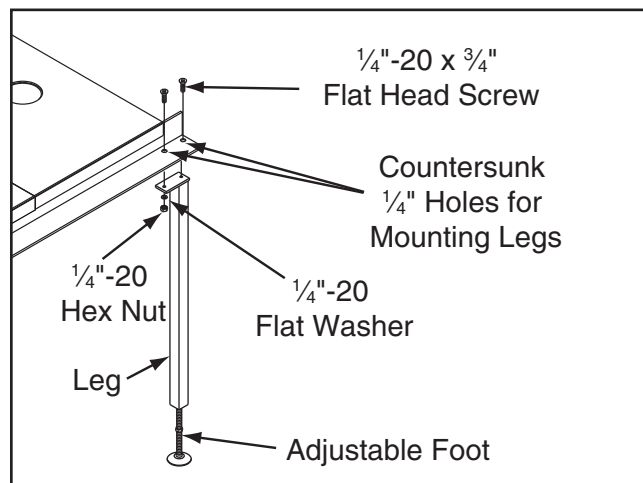

Figure 9. One of two legs secured to rail for supporting router table.
- Use (4) $\frac{1}{4}$ "-20 x $\frac{3}{4}$ " flat head screws, (2) $\frac{1}{4}$ " flat washers, and (2) $\frac{1}{4}$ " hex nuts to secure the legs to the fence rails, as shown in **Figure 9**.
Note: If your rails do not have mounting holes to accommodate the router table legs, you may need to drill holes in the end of the rails to allow the legs to be fastened, as shown in **Figure 9**.